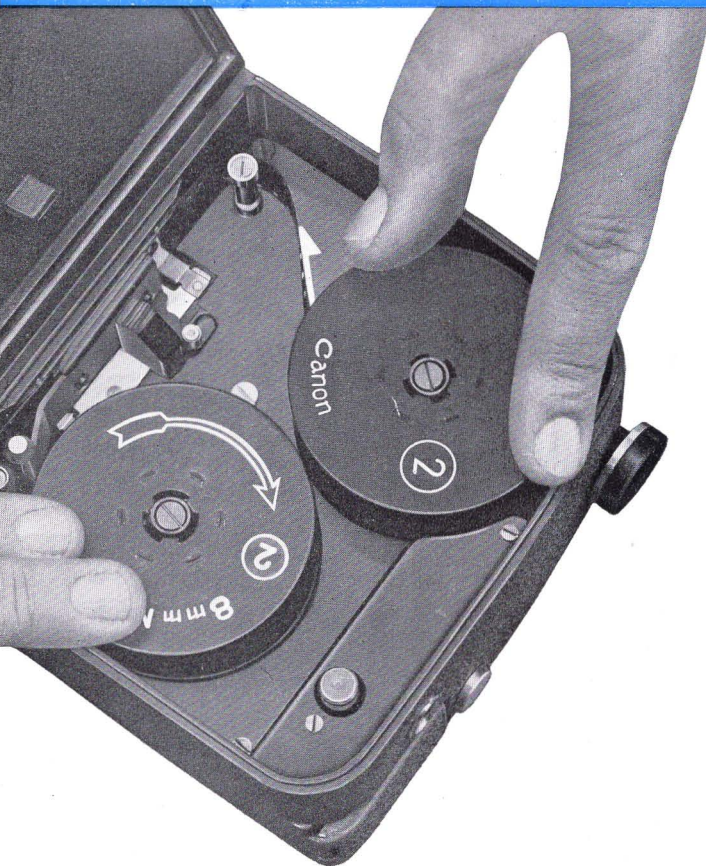

Fig. 3
1. Fig. 3 After first side is exposed continue to advance film until footage counter reaches "F".
2. Fig. 3 Remove both reels and use same procedure as that for loading.
3. Fig. 3 Canon reel with film goes on shaft at the top of the camera, with side numbered "2" facing up.
4. Fig. 3 Original film reel is placed at the bottom of the camera also with side "2" facing up.